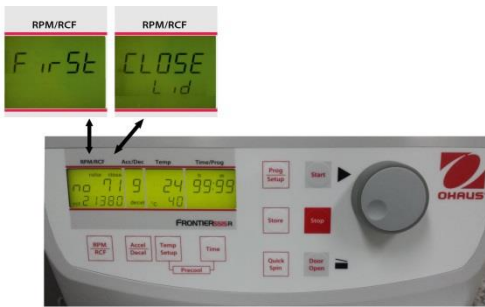
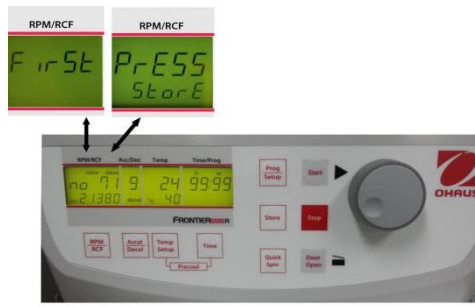

Figure. 23
Figure. 24
Close the lid of the centrifuge. Now proceed as described previously to set all important run parameters. If the lid isn't closed when storing the program, in the display "RPM/RCF" (A-1), the words "FirSt" and "CLOSE Lid" (See figure 23) flashes alternately. If you want to start the run without storing the program, in the display "RPM/RCF" (A-1), the words "First" and "PrESS StoreE" (See figure 24) flashes alternately.
For adaption of data press the key "Store" (12) (refer to figures 23 and 24) for approx. 1 second. If the program is stored correctly, the word "StorE" appears in the display "RPM/RCF" (A-1). As a result, the word "programm" (M10) disappears.